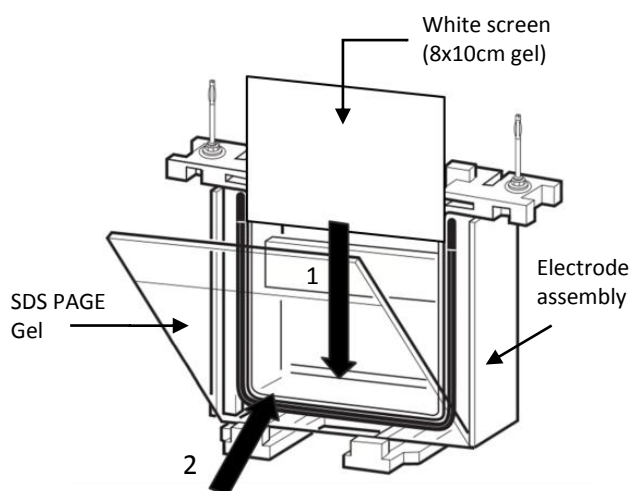

Figure 3. Insertion procedure for the 8x10cm gel white screen into the Bio-Rad mini-PROTEAN tank (image courtesy of Bio-Rad).
Bio-Rad mini-PROTEAN: Place the 8x10cm gel white screen on to the electrode assembly (1), so it sits within the gasket seal. Then lock the gel cassette into place (2) taking care not to disrupt the gasket seal in the process (figure 3).